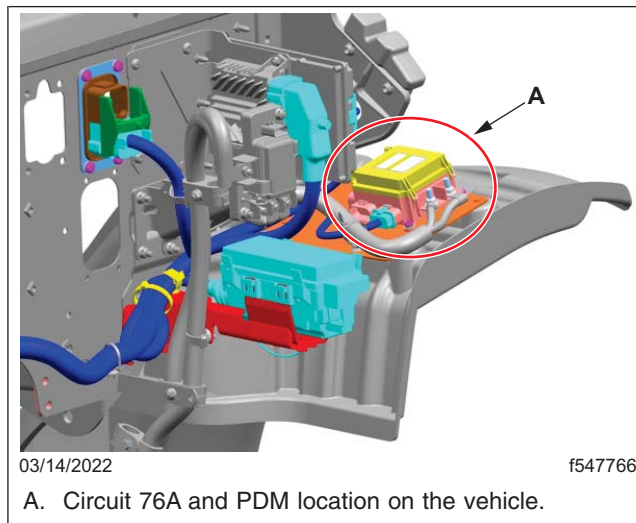

Fig. 2, PDM Location
3. Locate circuit 76A at the underhood PDM. The circuit may be terminated in one of the PDM connectors, typically the black one, or it may have been left loose by the manufacturing plant in the harness near one of the PDM connectors. If it was left loose, the wire will typically be wrapped in yellow or green electrical tape. **Fig. 2** shows the location of the PDM mounted on the vehicle.